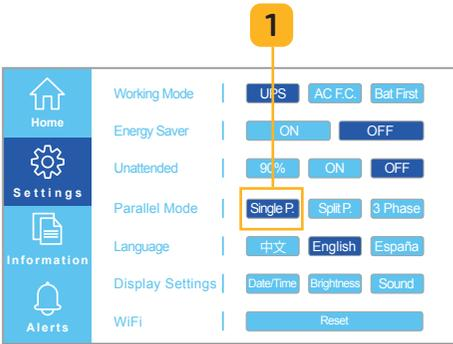

Fig. 6.22 Select single p. button
1. Select the **Single P.** button to set the unit's single-phase configuration (Fig. 6.22).